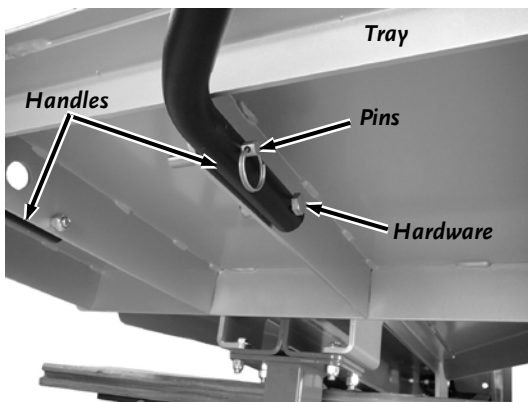

Figure 5
7. Install the Handles on the two center ribs of the front of the Tray with the Bolts and Locknuts using two 9\16" Wrenches (**Figure 5**). Rotate the Handles up and secure with the Pins.